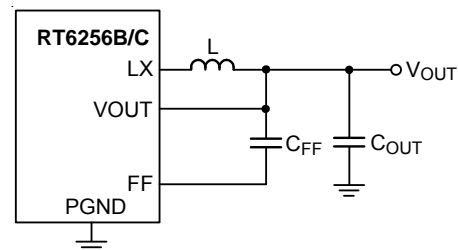
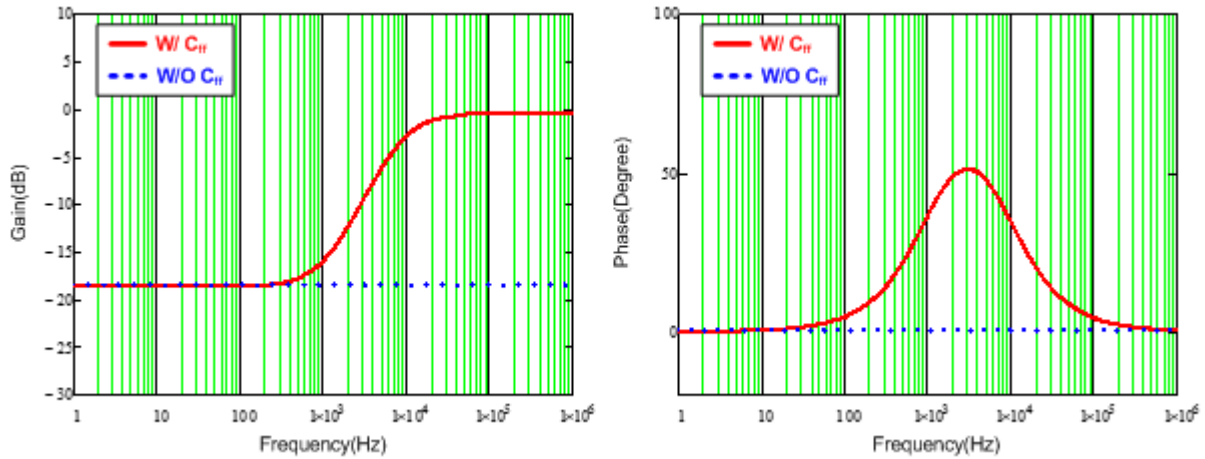

Figure 4. Feedback Loop with Feedforward Capacitor
Figure 5. Bode Plot with Different Feedback Loop Conditions
For saving time to design compensator and reducing the layout area through external components, the components of compensator are integrated in IC. However, this integrated compensator might not suit to every load transient spec. Hence, for the RT6256B/C to be more adaptable, the feedforward capacitor C_{FF} is used in the feedback loop to improve transient response, as shown in Figure 4. Figure 5 shows the comparison result of bode plot with different feedback loop conditions. Referring to Figure 5, through connecting a C_{FF} in feedback network, the gain and phase are raised in mid-frequency that not only can extend the bandwidth, but boost the phase margin as well. Moreover, there is also a high frequency pole to eliminate high frequency noise. Consequently, those features of feedforward feedback network allow the RT6256B/C have faster response to handle different load transient.
Observing Figure 5, the maximum phase boost occurs between zero and pole frequencies that is defined as maximum phase boost frequency, as expressed in equation (4). Hence, in order to achieve the maximum phase boost by adding C_{FF} in the RT6256B/C, the system's original bandwidth has to be located at maximum phase boost frequency.